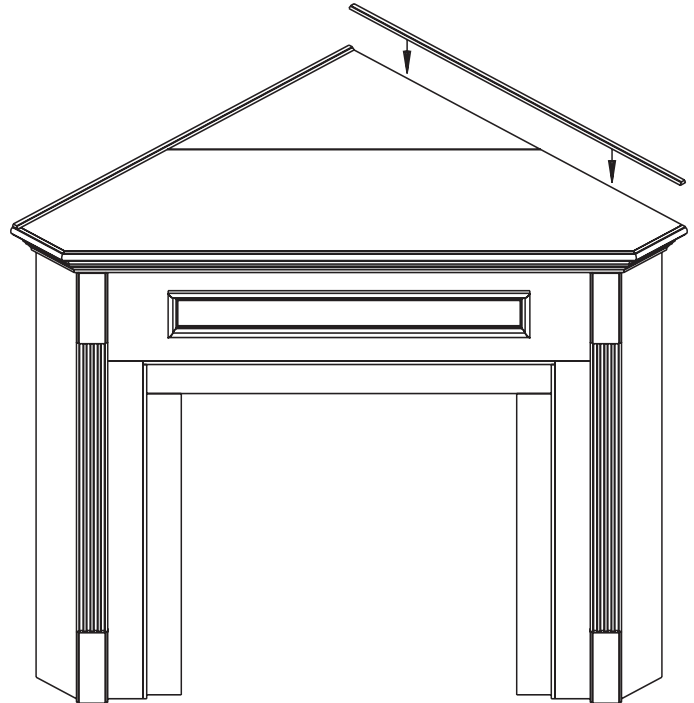

Figure 8
8. Cut top trim according to mantel size. Figure 8